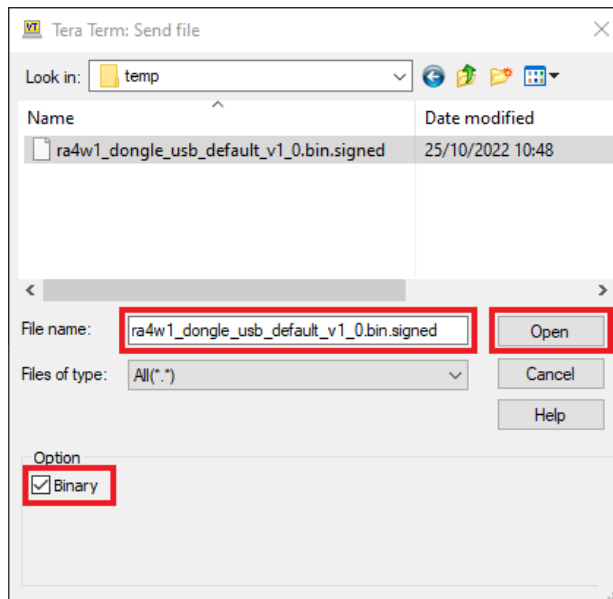

Figure 13. Selection of Software Image
- 5. Select **File > Send file...** from the menu. On the opened window (Figure 13) select **Binary**, navigate to the location of the software image file, select it, and click on the **Open** button. Now the terminal emulator program sends the whole file. LEDs D3 and D4 blink in antiphase and a pop-up window displays the transfer progress, which takes approximately 10 seconds.